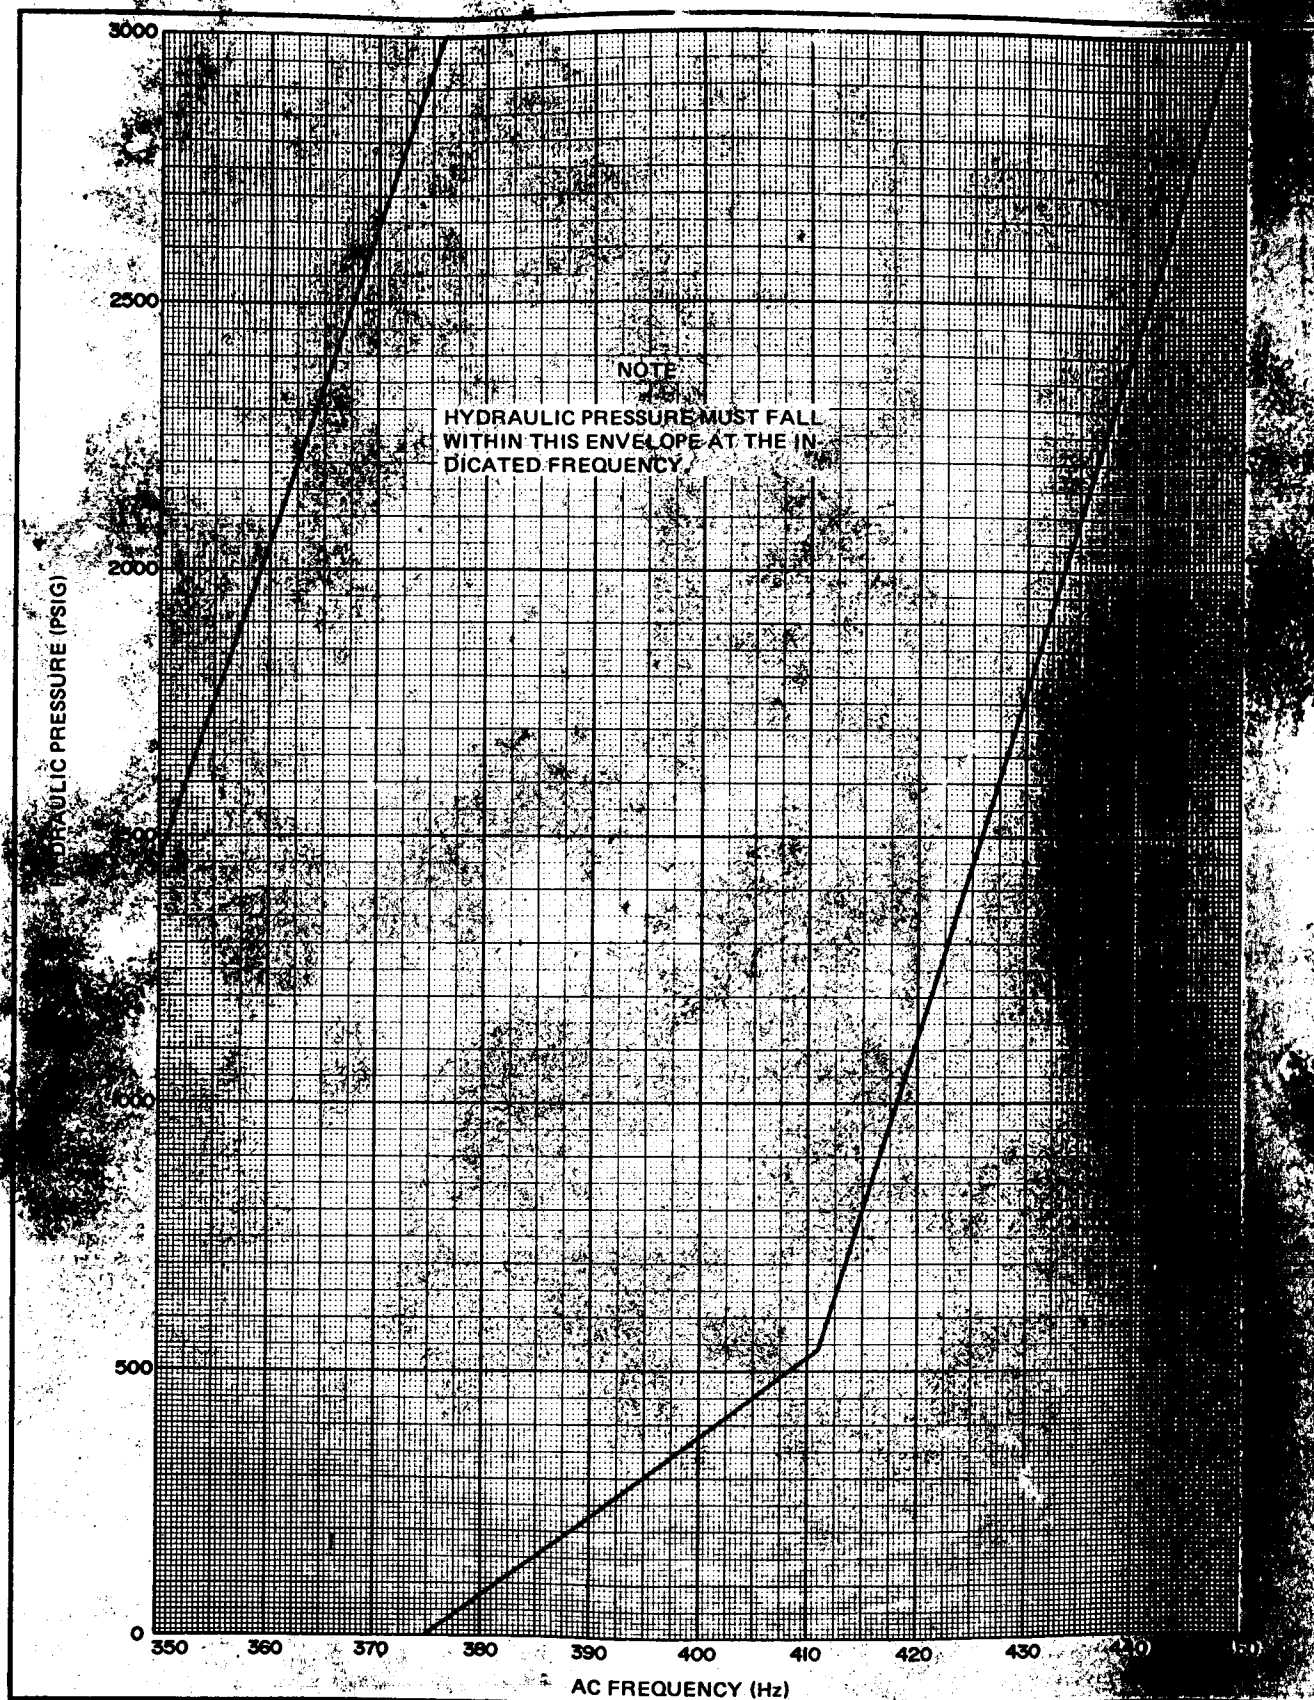

Figure 7-11. Pressure-Frequency Characteristics
3. Without cycling control surfaces, check pressure of PC No. 3 hydraulic system on airplanes through AF69-6196; or, on airplanes AF69-6197 and subsequent, check pressure of PC No. 3 hydraulic system. Indication must be within range shown in figure 7-11. (6 and 7)
14B. Emergency generator drop off occurs at airspeeds greater than 135 knots in flight.	a. Excessive horsepower is being extracted, perform simulated inflight EPP test (part of operational checkout paragraph 7-23). If pressures on 0 to 4,000 psi test gage exceeds limits of figure 7-11, replace EPP pump (T.O. 1A-7D-2-4). Retest for pressure indication. If pressure continues to be excessive, replace flow sensitive regulator (T.O. 1A-7D-2-4).